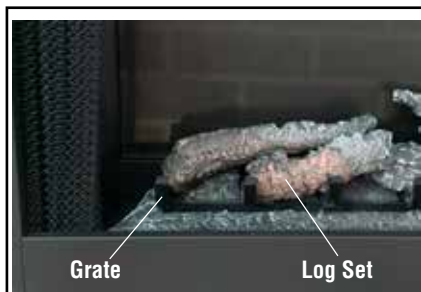

Figure 10
4. Remove the 2 screws on the front of the grate (see Figure 10). Remove Grate.